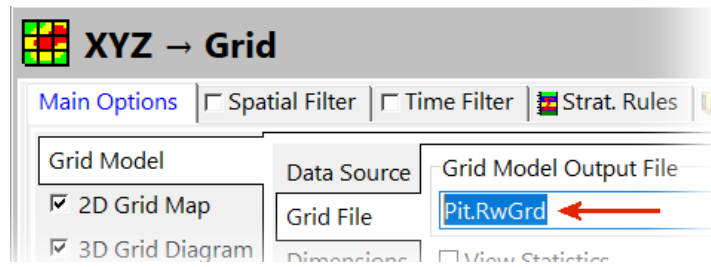

Figure 10
- Set the name of the *Grid File* to “Pit.RwGrd” (Figure 10).